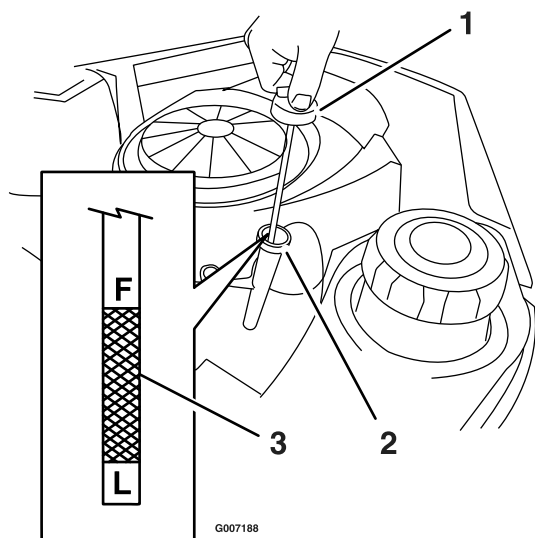
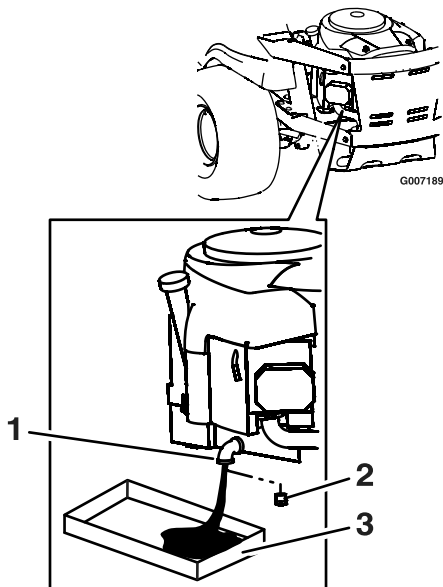

Figure 25
Figure 27
- Pull and remove the oil fill cap/dipstick; wipe oil off. Reinsert the dipstick and push firmly into place (Figure 25).
5. Clean the area around the drain plug and on the machine frame. Place a pan underneath machine directly below the drain hole in the frame as shown in Figure 27
6. Remove the oil drain plug (Figure 27). Remove the oil fill cap/dipstick (Figure 25).
9. When the oil has drained completely, install the oil drain plug. Tighten the plug to 14 N-m (125 in-lb) torque. Wipe up any excess oil on the frame (Figure 27).
11. Install the replacement oil filter to the mounting pad. Turn the oil filter clockwise until the rubber gasket contacts the pad, then tighten the filter an additional 1/2 to 3/4 turn (Figure 27).
14. Check the oil level (Figure 25); refer to the Checking the Oil Level section.